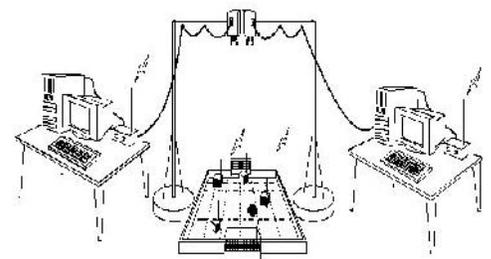

Figure 2
- Camera placement is shown in Figure:2